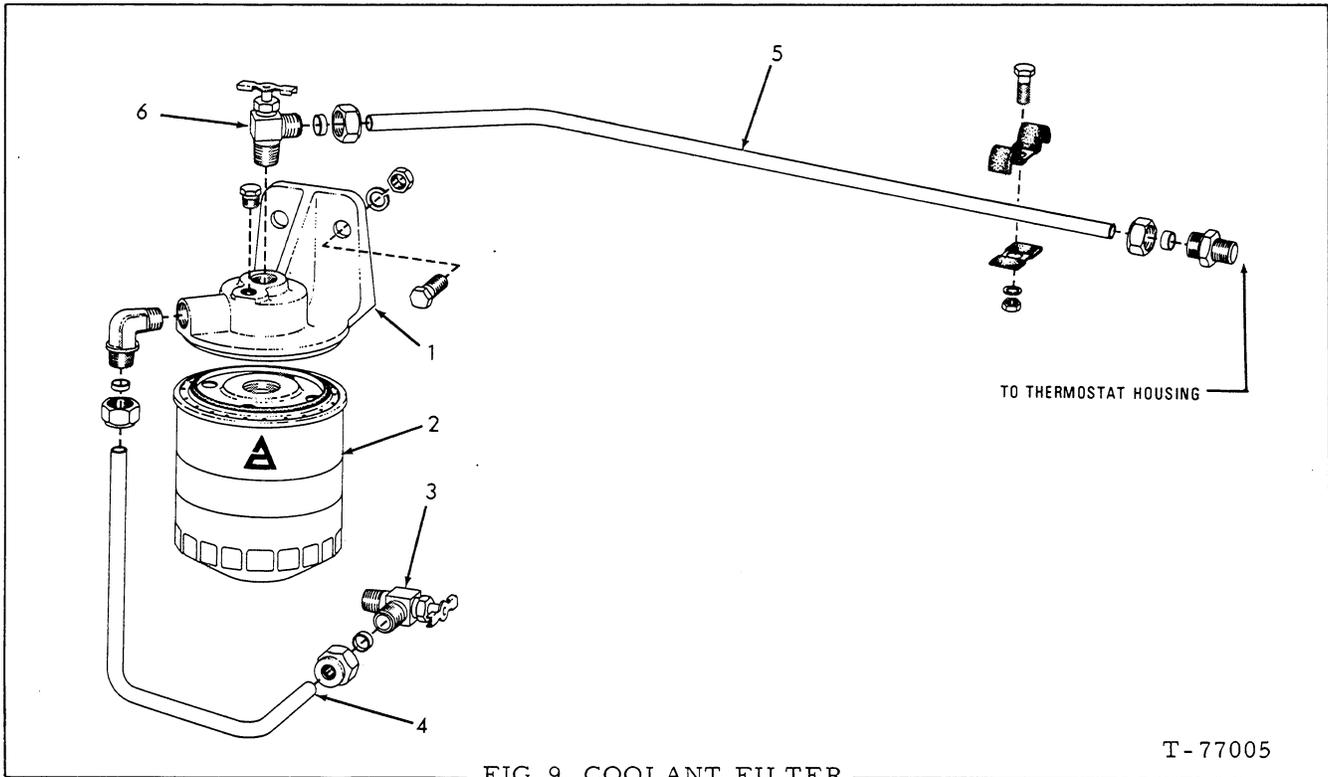

FIG. 9 COOLANT FILTER
The inlet and outlet valves, Fig. 9 (3, 6) must both be open before coolant can circulate through the filter. Coolant enters through the side of the filter base, passes through the filter element, and returns to the cooling system from the top of the filter base.
Close inlet and outlet valves, Fig. 9 (3, 6). Disconnect inlet and outlet lines. Remove capscrews, nuts, and lockwashers securing filter base (1) to engine and remove filter base and element as an assembly.